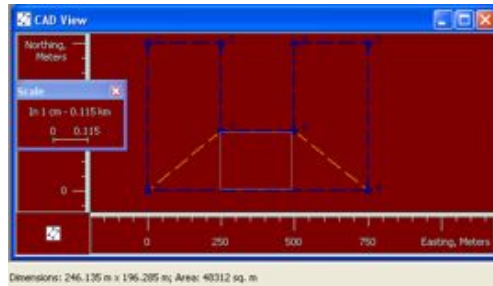

Figure 3-22. Show Area and Dimension
- Show area size – enable to display an area of the rectangle in the Status Bar, when the user drags the rectangle on the CAD View (Figure 3-22)